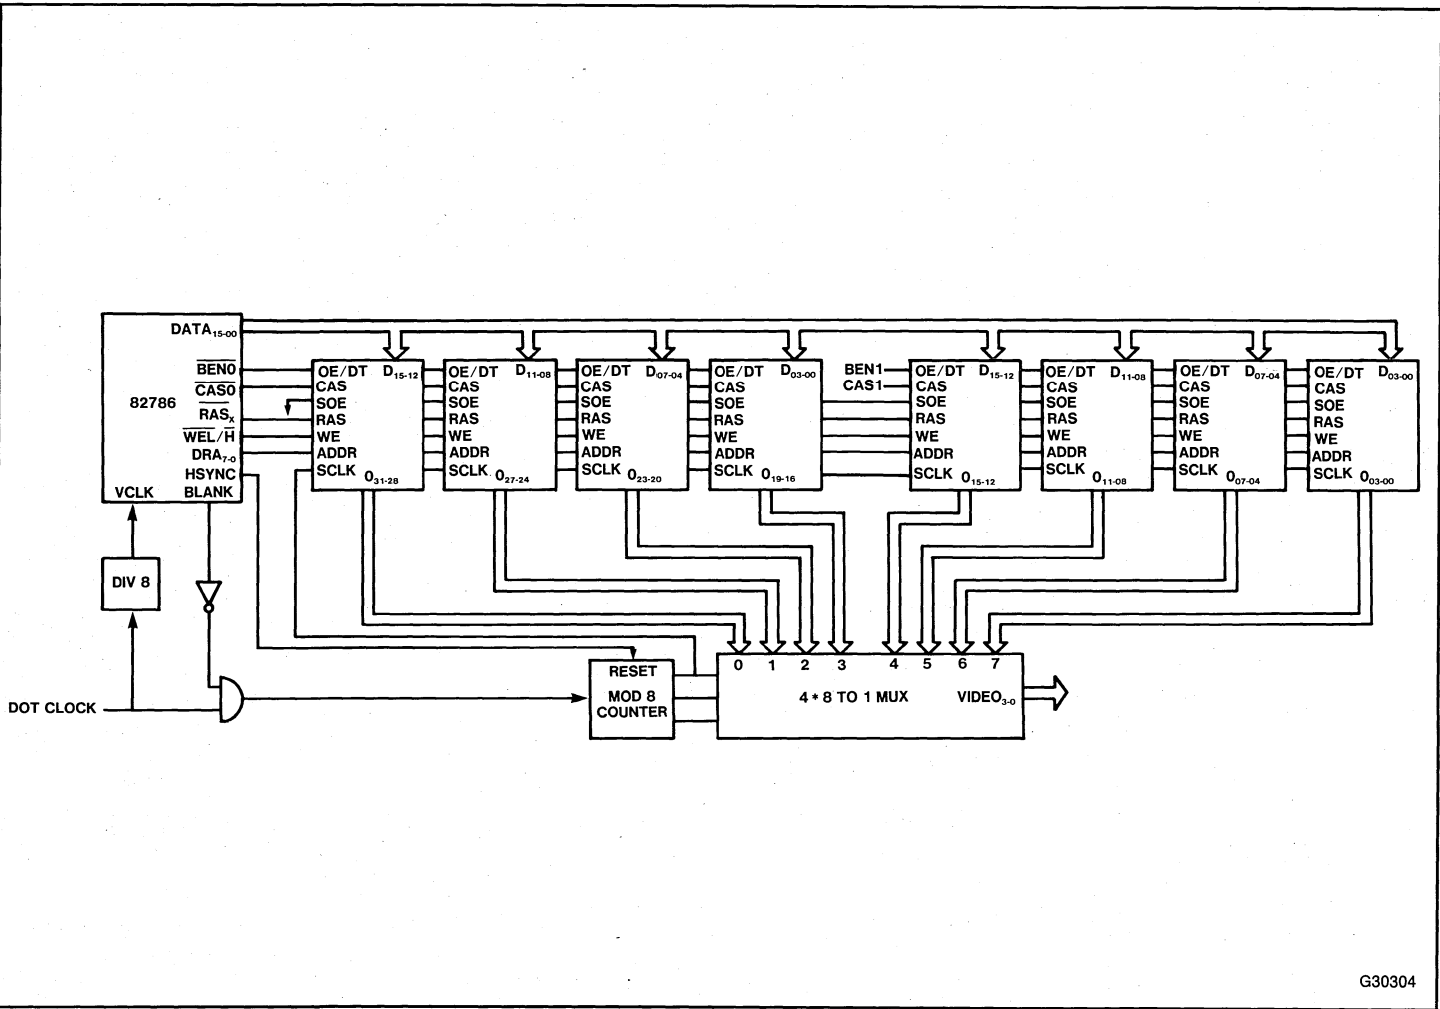

Figure 3-9. Sample VRAM Design
Figure 3-9 depicts a VRAM sample design in which eight  $64\text{K} \times 4$  VRAMs generate a 4 bpp display of up to  $2\text{K} \times 1\text{K}$  pixels. The VRAM Address and the Data and Control pins are connected in the same manner as for DRAMs. The difference between VRAM and DRAM system is the video interface.
On a Data Transfer (DT) Cycle to the VRAMs, the VRAM shift registers are loaded from the selected memory row. As Figure 3-9 illustrates, this presents a 32-bit wide word of video data on the shift out pins. This data is then serialized into eight 4 bpp pixels by four 8-to-1 multiplexers. A simple Mod 8 counter, driven by the dot clock frequency, controls the sequencing of the multiplexer through the eight pixels. The Mod 8 counter should be eight times the 82786 VClk frequency. The Shift Clock (SClk) to the VRAMs also is clocked at VClk frequency, and enabled when Blank is low. The DT cycle occurs during Blank time. SClk is activated during display time. This allows each SClk to clock a new 32-bit word to the multiplexer, providing a dot rate of up to 200 MHz using a 25 MHz VClk/SClk.